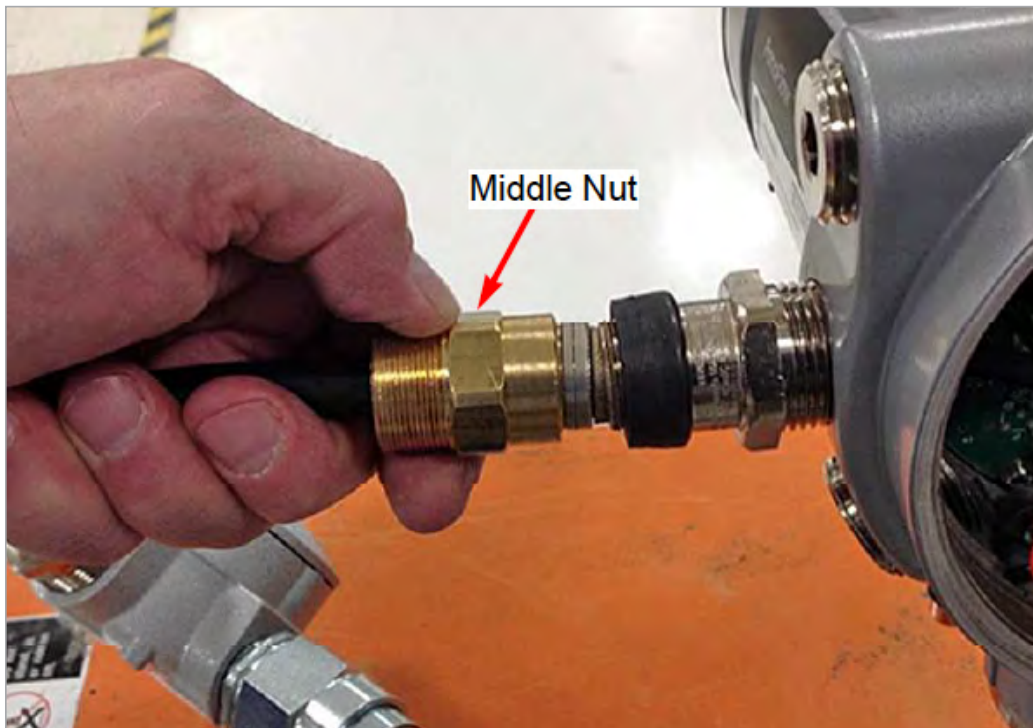

Figure 9: Installing the middle nut
6. Screw the *Middle Nut* onto the cable gland to secure the clamped section (see *Figure 9* below).